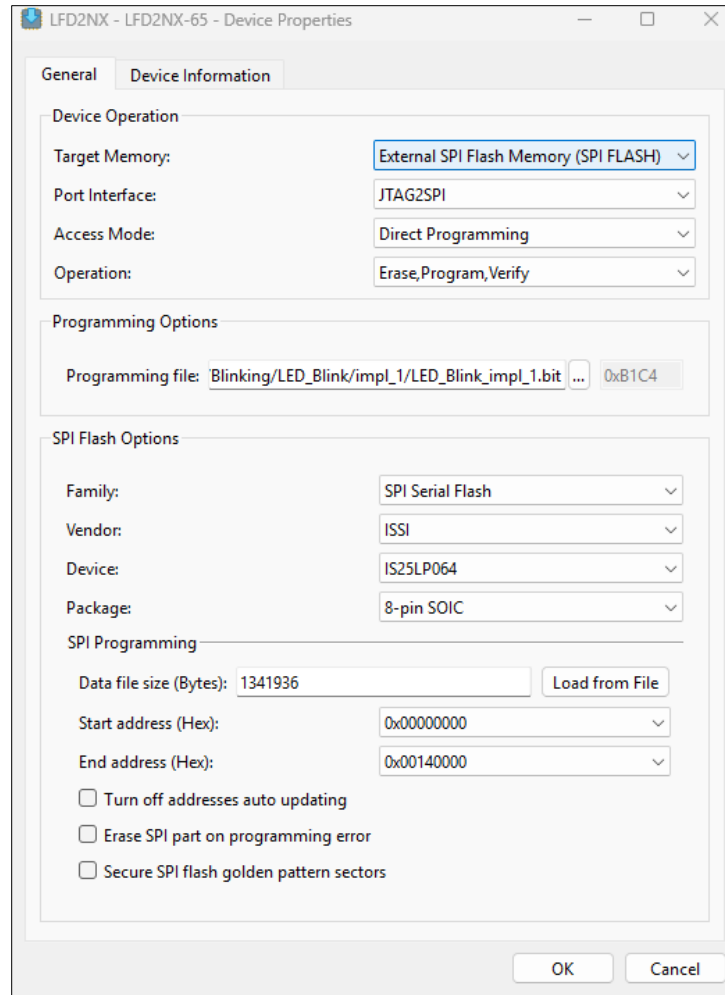

Figure 5.5. SPI Flash Operation Dialog
- Open the **Device Properties** dialog box by double clicking the **Operation** column. Select **External SPI Flash Memory** from the **Target Memory** drop-down list in the **Device Operation** area. You can then see the **Device Properties** dialog showing the Flash memory details (Figure 5.5).